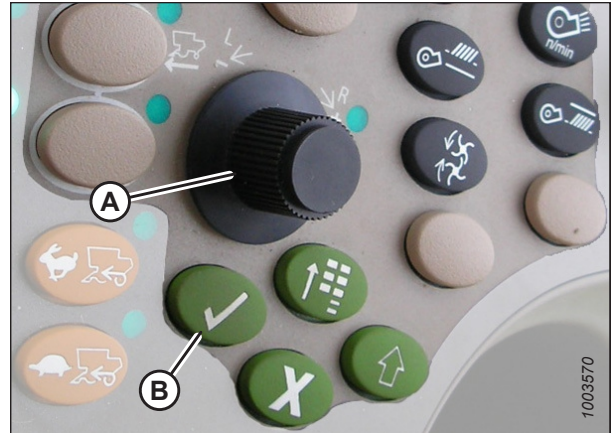

Figure 7.313: John Deere Combine Control Console
8. Select **HEADER** in box (A) by scrolling down to the box using the scroll knob, and then pressing the check mark button (knob and button are shown in Figure 7.313, page 327).
9. Scroll down to the lower right icon that resembles an arrow in a diamond (B) and press the check mark button to select it.